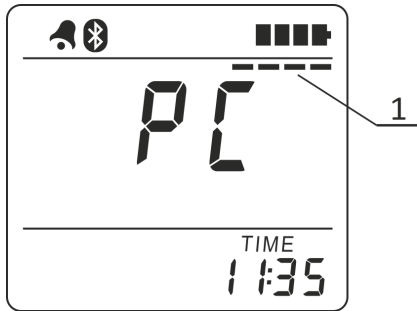

Figure 2.19 – LCD of the radiometer
In case of successful connection with the PC and beginning of data communications, the LCD of the radiometer displays a stripe (1) (Figure 2.19), “moving” across the instantaneous value indicator.